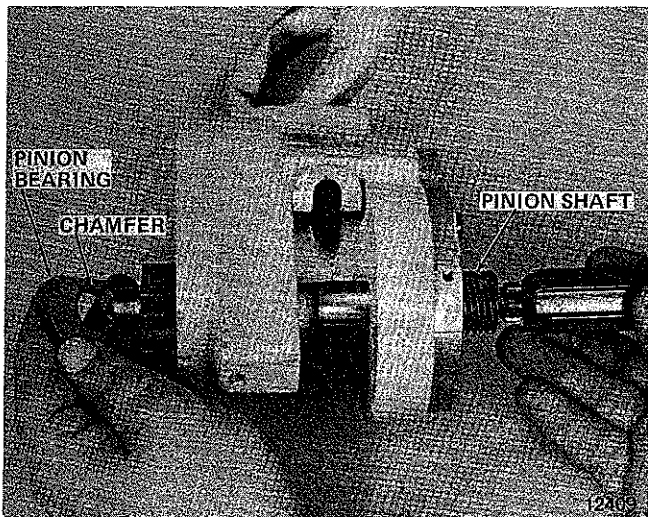
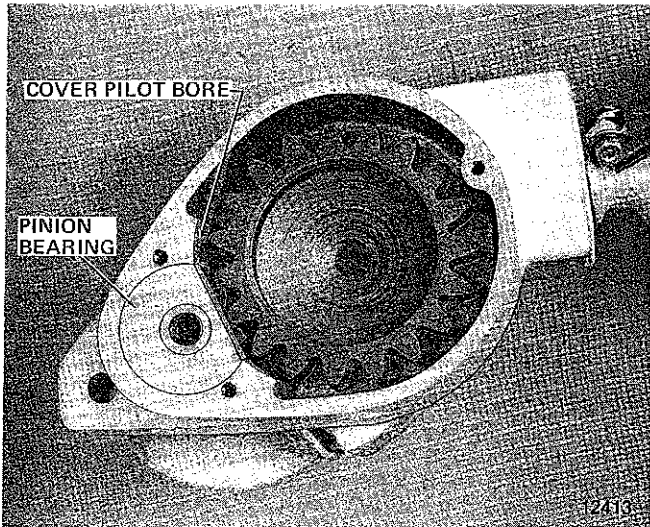

Figure 6-4. Removing Pinion Bearing from Frame and Pinion Shaft
Figure 6-8. Positioning of Pinion Bearing
b. Remove pinion bearing from pinion shaft and bore in frame. Bearing can be started out of bore by tapping on end of shaft as shown in Figure 6-4.
b. When installing pinion bearing, be certain to position it so chamfer in bore faces the pinion gear. See Figure 6-4. The flat on side of bearing must be perfectly aligned with cover pilot bore in frame, as shown in Figure 6-8. Sequence of assembly is: pinion, sprocket, then pinion bearing.